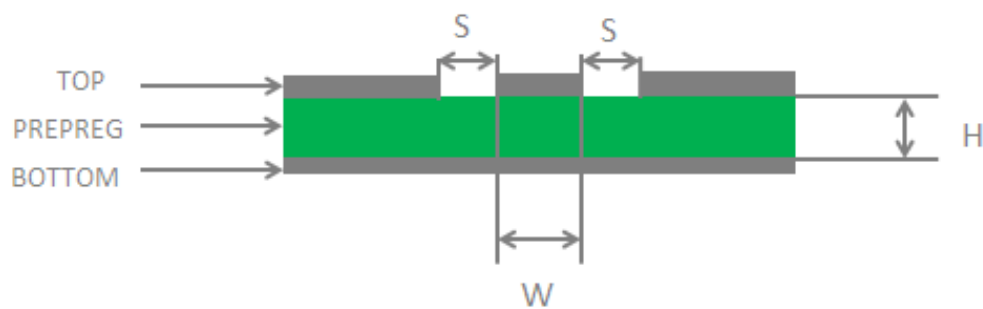

Figure 32: Coplanar Waveguide Design on a 2-layer PCB
2. When using MCU to control module to enter into the forced download mode, follow the above timing sequence. It is not recommended to pull up USB_BOOT to 1.8V before powering up the VBAT. Short the test points as shown in **Figure 32** can manually force the module to enter into download mode.